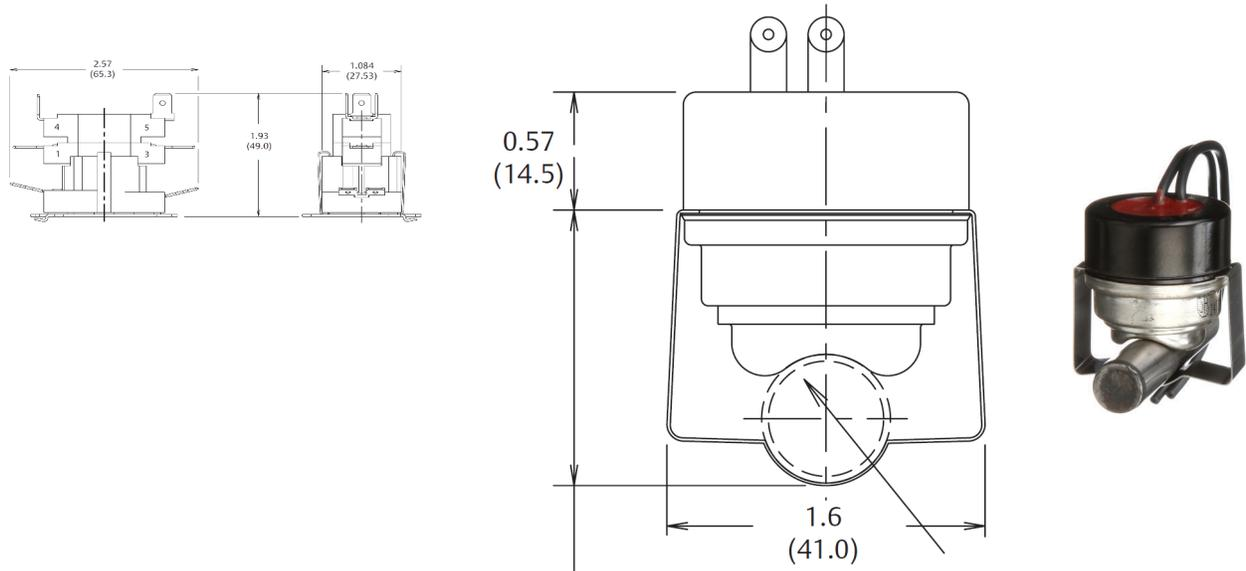

Figure 3
**Tube Mounting** – In this mounting configuration, the 14T is supplied with a saddle-shaped disc cup and a removable spring clip which holds the control firmly on a tube. This configuration is available for 3/8", 1/2", 5/8" O.D. tubes (see figure 3).